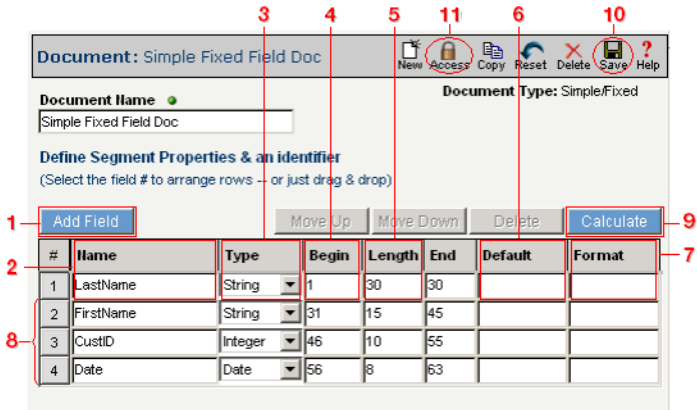

Figure 9-5. Follow the steps listed above to successfully define a new fixed-length text definition.
- 10 Click the **Save** button in the toolbar. Compare your definition to that shown in Figure 9-5 below.